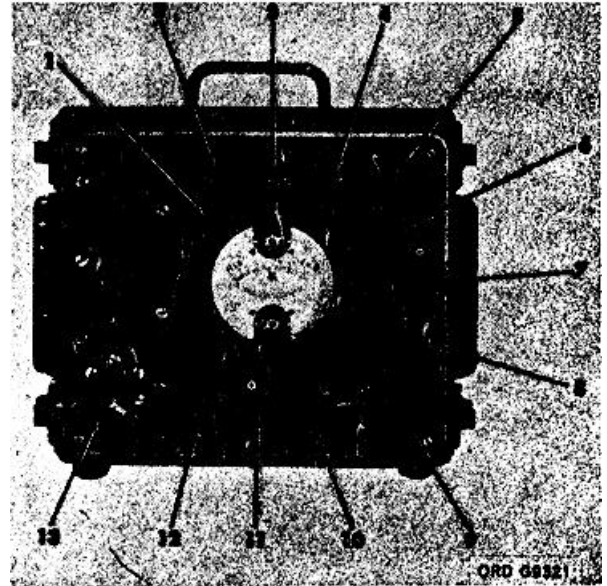

Figure 17. Test set.
a. *Test Set* (fig. 17). The test set tests the M22 installation by measuring the stability and magnitude of the control signals from the GCU. It is also used to detect the presence or absence and sequence of ignition voltages from the GCU. Operating voltages for the test set are supplied by an internal 12-volt missile battery. Four indicator lamps and a meter
Table 2. Launching and Guidance Test Set-Controls and Indicators (fig. 17)